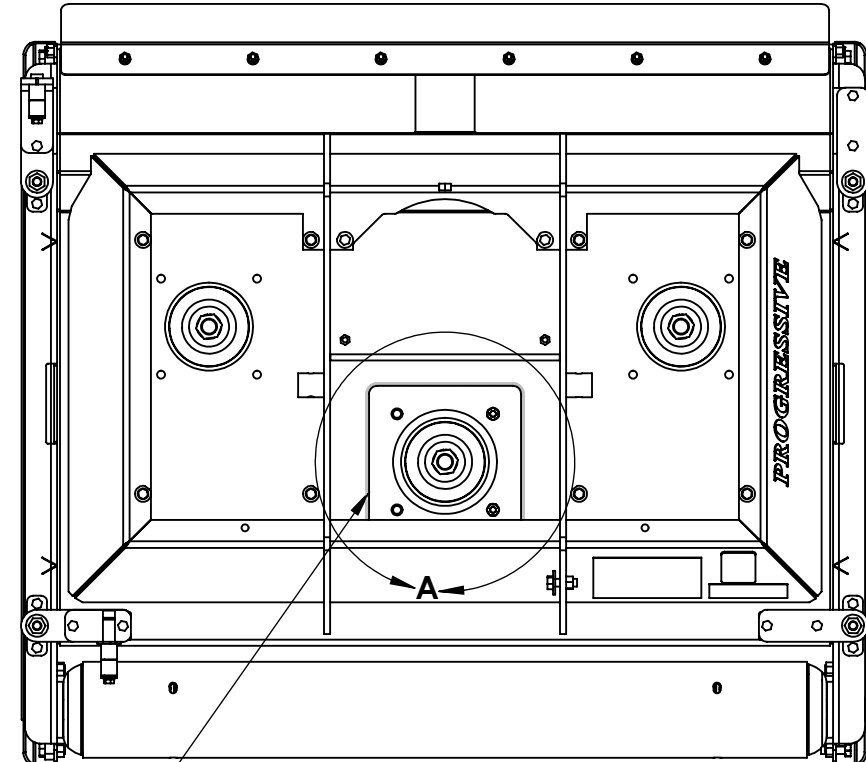

FIGURE 2. PLATE INSTALLATION
3. PLACE PART 521847.13 - DECK STIFFENER PLATE OVER SPINDLE AND ENSURE IT IS CENTERED AND THE HOLES ARE LINED UP. USE THE CARRIAGE BOLTS TO LINE UP THE HOLES. SEE FIGURE 2.